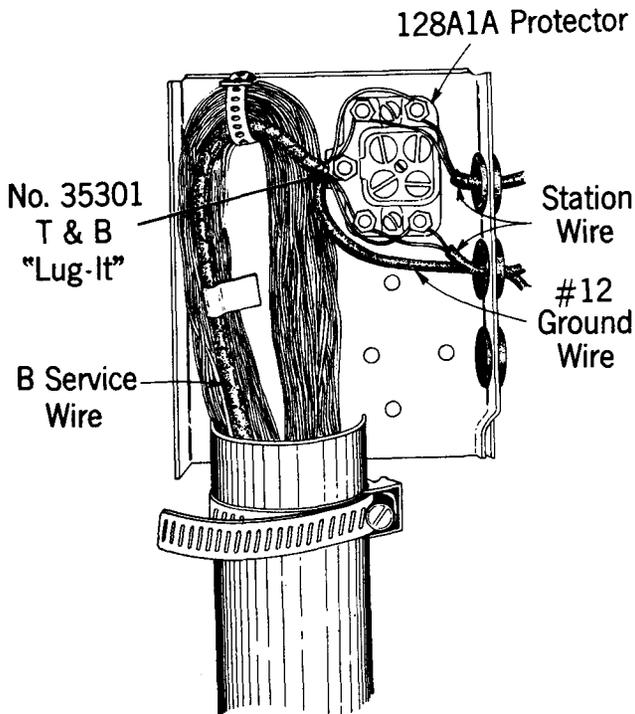

Fig. 15 — 3A1 Closure at Subscriber Location
4.10 The service wire should be prepared as described in Pars. 4.02 to 4.04. The protector or connecting block should be placed with the ground binding post toward the U-guard. Place the pronged washer on the ground binding post between the ground wire and the "Lug-It." Place the brass washers and nut on top of the "Lug-It." A typical installation with a 3A1 Closure is shown in Fig. 15.